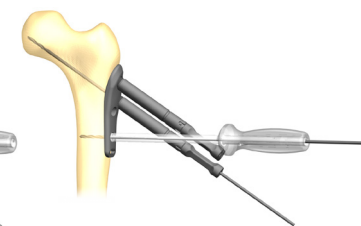

Figure 6f
- Insert a 2.8mm Guide Pin through the Plate Handle (Figure 6f).